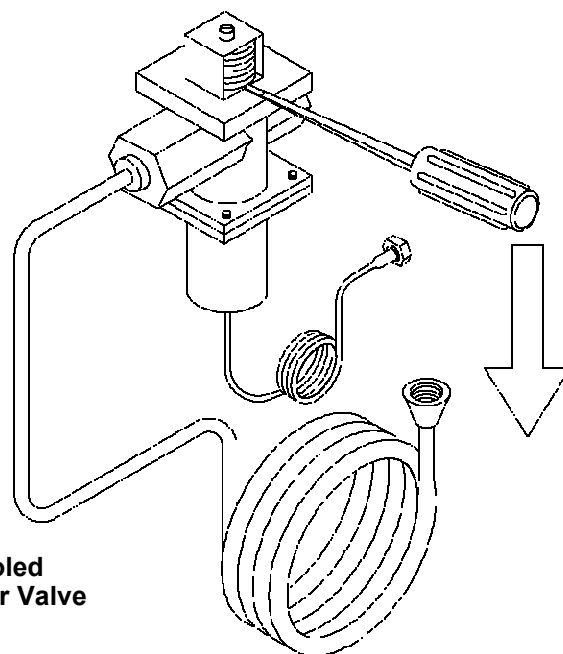

Fig. 29
6. **On water-cooled units, disconnect the water lines. Use compressed air to blow out all remaining water in the condenser. Insert a screwdriver (Fig. 29) to open the water valve. Note: Failure to purge the machine of water can result in severe damage to the cooling system. This task should be performed by a qualified service technician.**